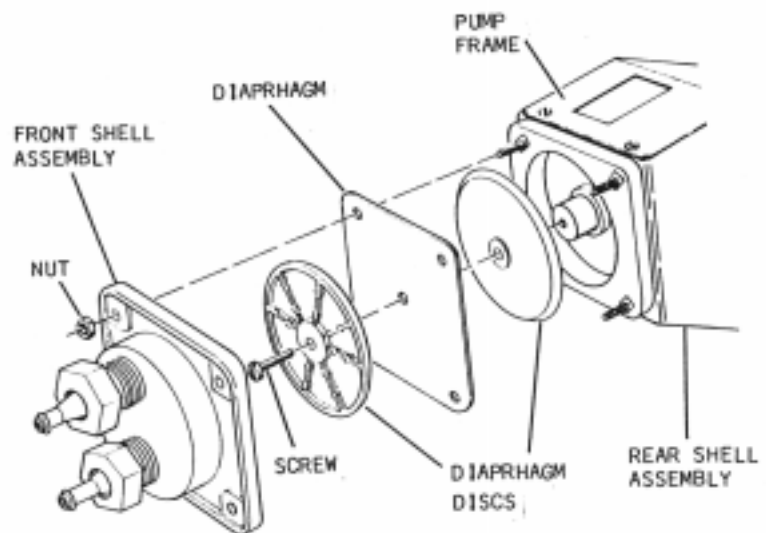
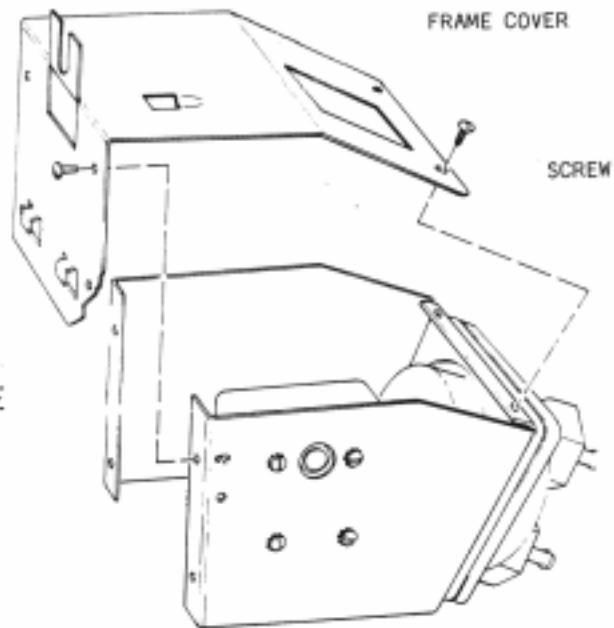

FIGURE 3. INSTALLING DIAPHRAGM DISCS
FIGURE 9. REPLACING THE FRAME COVER
2. REMOVAL OF DIAPHRAGM AND DIAPHRAGM DISCS (See Figure 3 and Figure 9)
10. INSTALLING DIAPHRAGM AND DIAPHRAGM DISCS (See Figure 3)
11. REPLACING THE FRAME COVER (See Figure 9)